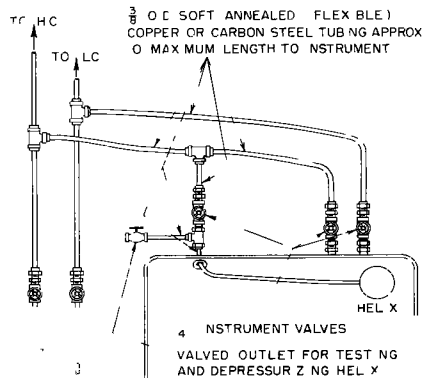

FIGURE 11 Installation of Connecting Piping for Class 13H Compensator
2. Connect high connection (HC) to high pressure (H) side of Meter.
3. Connect low connection (LC) to low pressure (L) side of Meter. Refer to Instruction Section G23.1 for details regarding connections at horizontal and vertical pipe lines.
4. When a Class 13H Compensator is included in a Type LH Recorder or Indicator, run connecting piping to helix coil from HC connecting piping (see Figure 11).